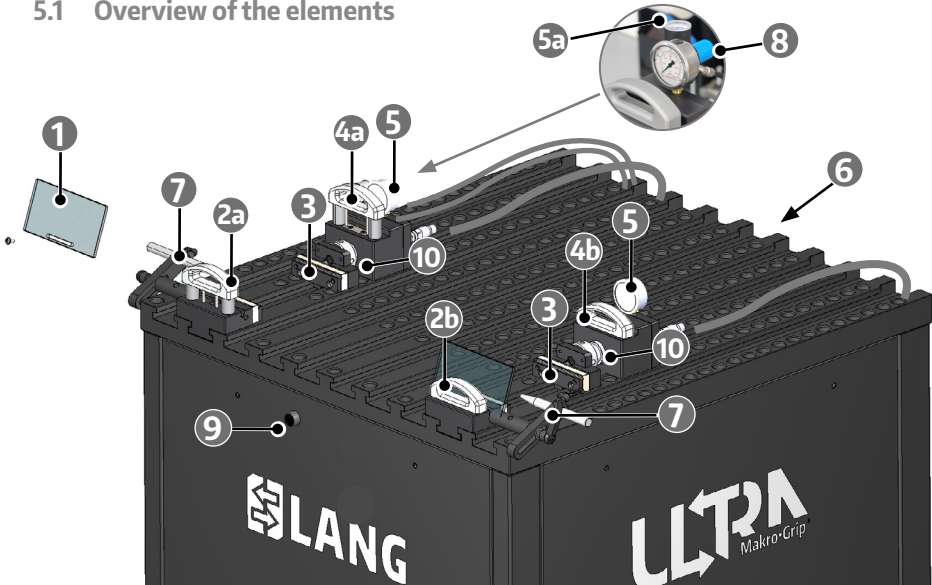

Fig. 1
- The stamping force can be set continuously via the pneumatic inlet pressure by using the pneumatic pressure controller (Fig. 1, Item 8).
- The stamping operation is started by pressing the manual button (Fig.1, Item 9). The stamping operation can be ended after a steady-state pressure has set-in in the system.
Connect the stamping system to the compressed air (inlet pressure 6-8 bar). A hose connection (Fig. 1 Item 6). for a quick-release coupling is located at the back of the stamping station.
Set the pneumatic pressure at the adjusting handwheel (Item 8, Fig. 1) to 0 bar, and disconnect the compressed air connection with the quick-release coupling (Fig. 1 Item 6).
The stamping pressure is set by turning the blue adjusting handwheel on the pressure controller (Fig. 1, Item 8).